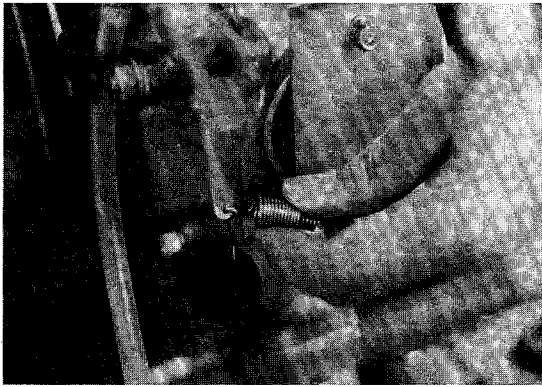
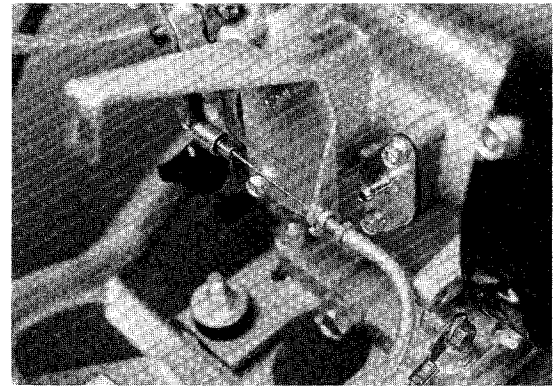

Figure 7-17
Figure 7-18
6. Unhook spring by rotating one-half turn and remove cable assembly (Figure 7-17).
3. Reconnect spring by inserting end of spring through hole in engine governor arm toward front of car (Figure 7-17), then rotating it one-half turn to its proper hole position (Figure 7-18).